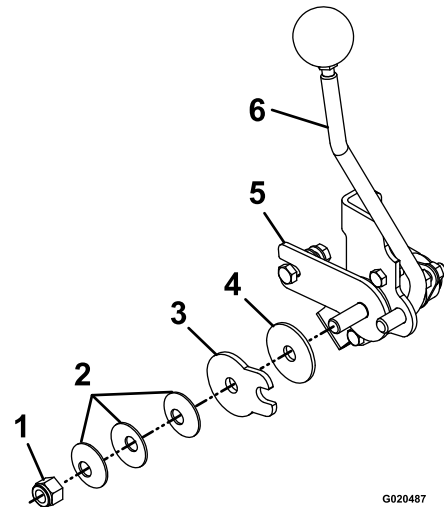

Figure 56
3. To adjust the tension, adjust the pivot nut which is located at the end of the motion control shaft in front of the righthand console (Figure 56).